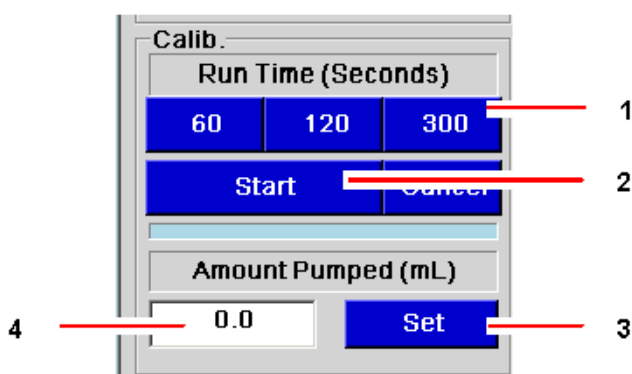

Fig. 58: Calibrating the Pump Flow Rate
5. In the Flow Rate pane of the PUMPS screen for that pump, press the Calibrate button to open the Calibration pane (see Fig. 58 on p. 72):